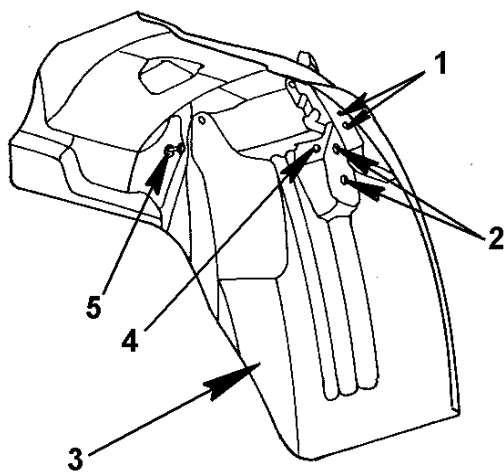

Figure 43 Fender Extension Removal
2. Locate the fender extension mounting bolts and nuts on the fender extension assembly (Figure 43, Items 2 and 4).
3. Loosen and remove the three mounting bolts (Figure 43, Items 2 and 4) on the rear surface of the fender extension.